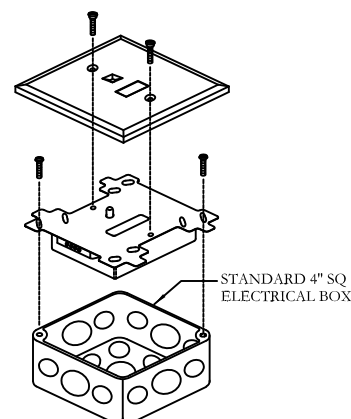

FIGURE 2
The (FFO-ZM) Conventional Zone module is mounted as shown in Figure 2 on page 1 of this instruction.
- 2) Secure the module to a U.L. listed electrical box (supplied by installer), as shown in Figure 2.